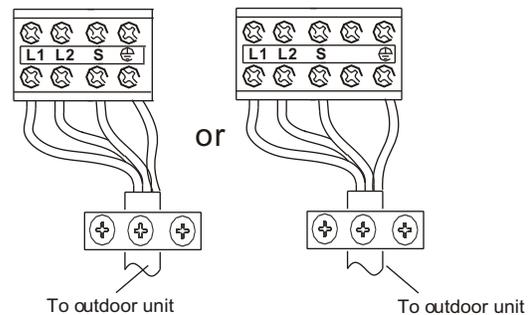

Fig. 23
3. Lift the indoor unit panel up, remove the electrical box cover by loosening the screw as shown in Fig.23.